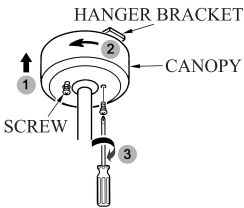

FIG.10
4. Mount the canopy on the two screws in the hanger bracket and twist the canopy, so the screw heads hold the canopy in place. Retighten the two screws.(see Fig.10)